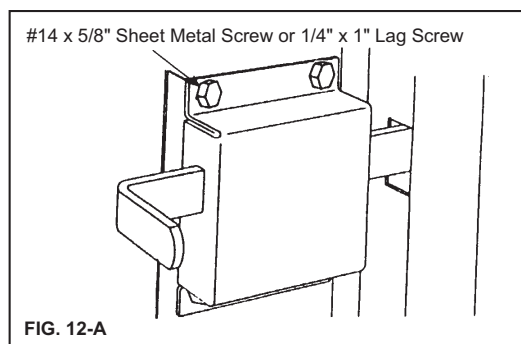

FIG. 12-A
- Install inside slide bolt on the end stile of second section. Use (4) #14 × 5/8" hex head sheet metal screws (steel doors) or (4) 1/4" × 1" lag screws (Fig. 12-A).